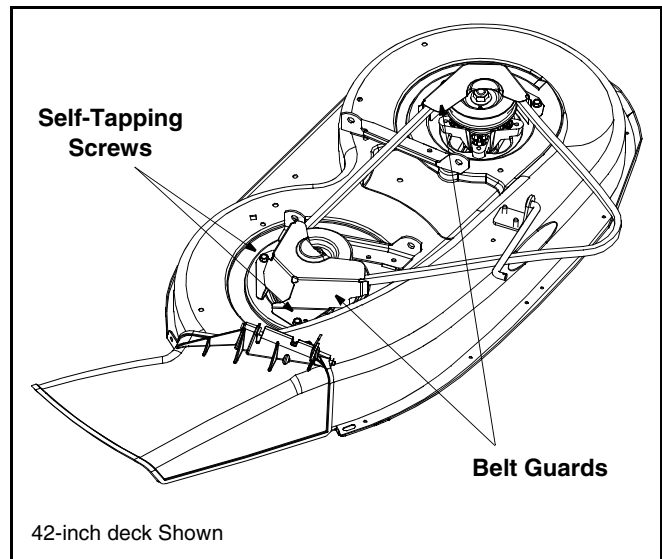

Figure 30
- Remove the belt guards (located over each spindle pulley) by removing the self-tapping screws which secure them in place. See Figure 30.
- Remove the belt guards (located over each outer spindle pulley) by removing the self-tapping screws which secure them in place. Refer Figure 30